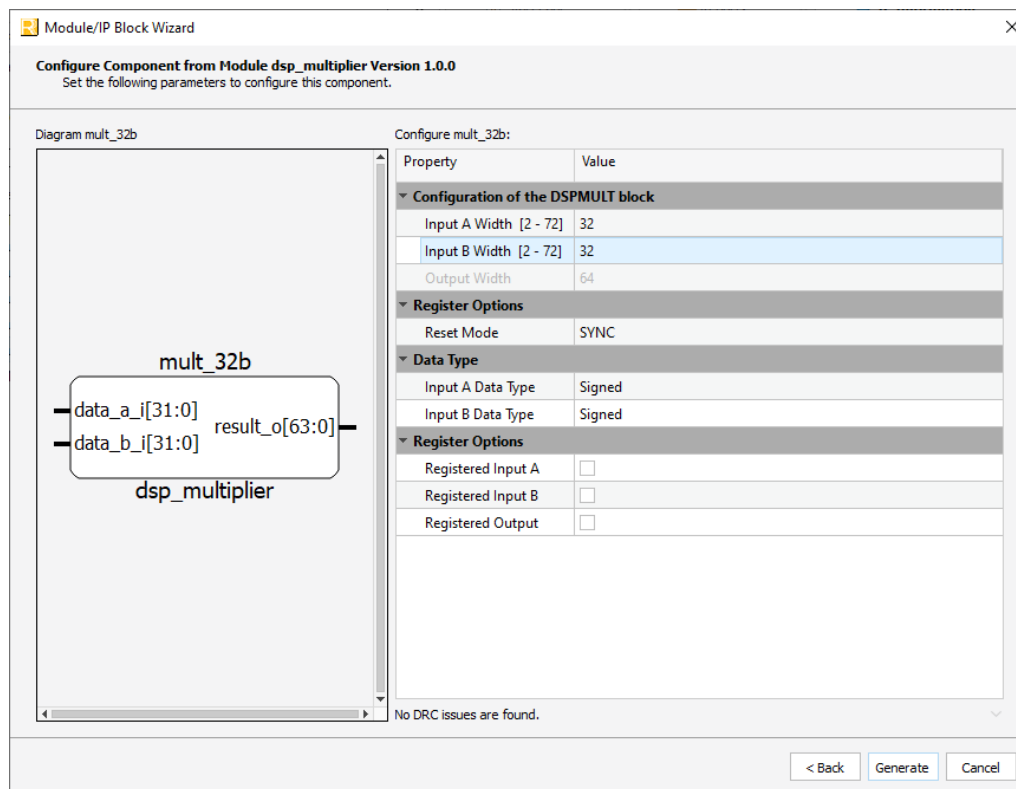

Figure 3.2. Example: Generating 32-bit Multiplier in IP Configuration
3. In the **IP Configuration** page, customize the Multiplier by selecting options as shown in Figure 3.2.